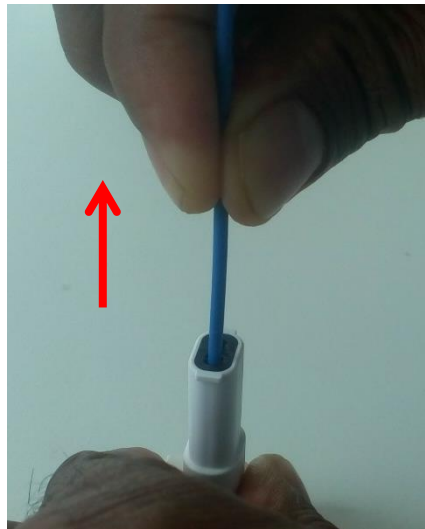

Fig 4
4. Push the terminal into the hole till the terminal reaches the dead end position (till it bottoms out) in the housing. Pull the terminal back gently to ensure that terminal is seated properly in the housing as shown in fig 4.